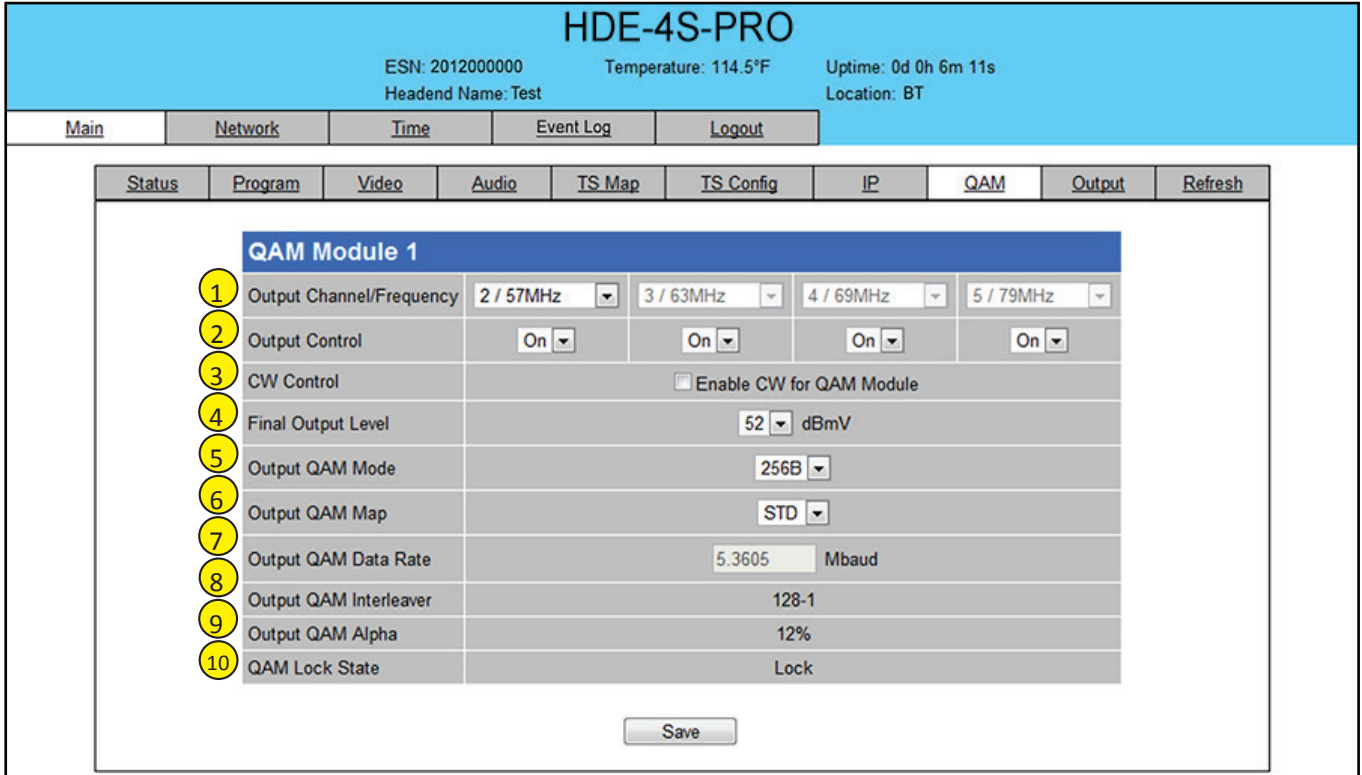

Figure 5.9 - "Main > QAM" Screen
The "Main > QAM" screen (Figure 5.9) is a "read and write" screen to assign the QAM parameters to the TS:
- 1 **Output Channel/Frequency:** User must assign an RF channel number to the RF QAM output of the Quad-QAM module (i.e. RF channel 2, as shown in Figure 5.9). The remaining three RF QAM channels will be automatically assigned to the next adjacent channels (i.e. RF channels 3, 4, and 5). The range is NTSC channels 2 to 155.